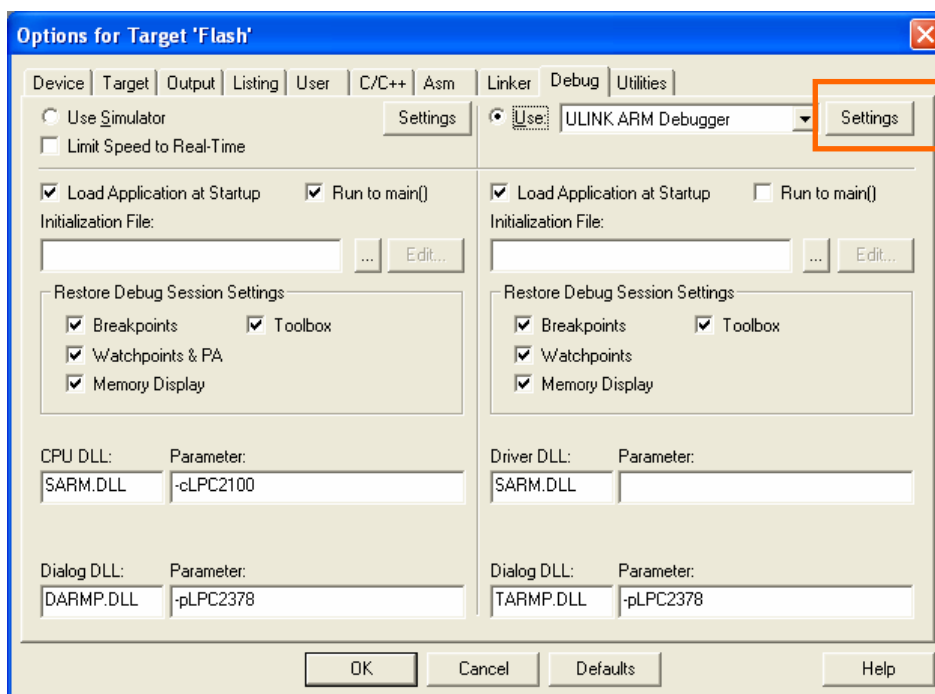

Figure 2-9. µVision3 Debug Options
1. Right-click on the target name, “Flash” in the Project Workspace and choose “Options for the target ‘Flash’”. Choose the “Debug” tab in the dialog box that appears, as shown in Figure 2-9. Choose the proper debugger (probably “ULINK ARM Debugger”).